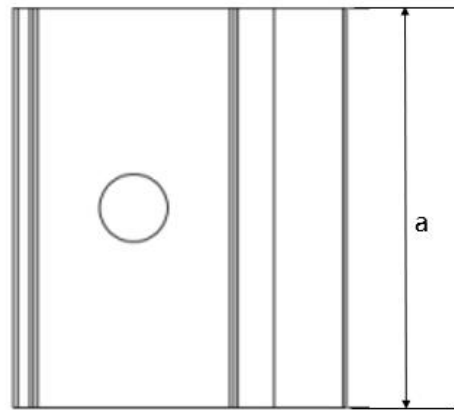
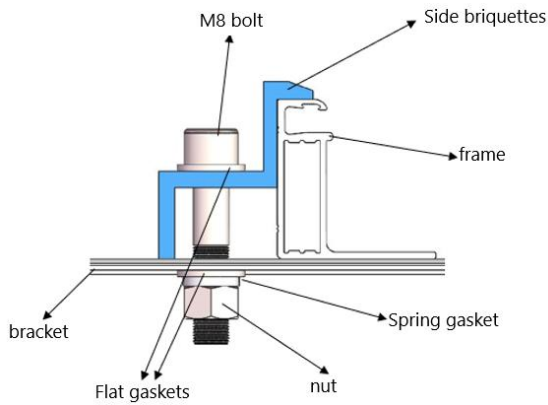

Fig. 7 Top view of fringe clamp
Fig. 11 Installation schematic diagram of fringe clamp
- ③ The top surface of the rail contacted with module frame should be equipped with grooves compatible with an M8 bolt.
- ④ If the grooves are not provided, holes of a suitable diameter may need to be drilled to allow bolts attaching to the rail at the same locations as mentioned above.
- ⑤ Ensure that the mounting sequence of each clamp is in the order of flat washer, spring washer and nut.
- ⑥ Figures 7~10 show the schematic diagram of the clamp, while Figures 11 and 12 show the installation schematic diagram of the clamp. The dimensions of the clamp are as follows: Length(a) ≥ 50 mm, with a thickness of at least 4mm, and an overlap with the frame (d) ≥ 10 mm; or Length(a) ≥ 60 mm, with a thickness of at least 3mm, and an overlap with the frame (d) ≥ 8 mm. The clamp section can be changed under the premise of ensuring reliable installation, and it must not extend beyond the frame to avoid contact with the glass.
- ⑦ Modules sized 2384*1303mm and above are only suitable for a clamp dimension of length(a) ≥ 60 mm.
- ⑧ The tightening torque is suggested to be 17~23N•m for Class 8.8 screw and bolts.